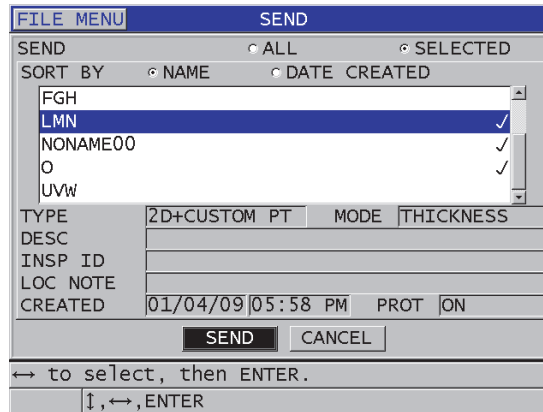

Figure 14-6 Selecting a file to send
4. In the **SEND** screen (see Figure 14-6 on page 272):